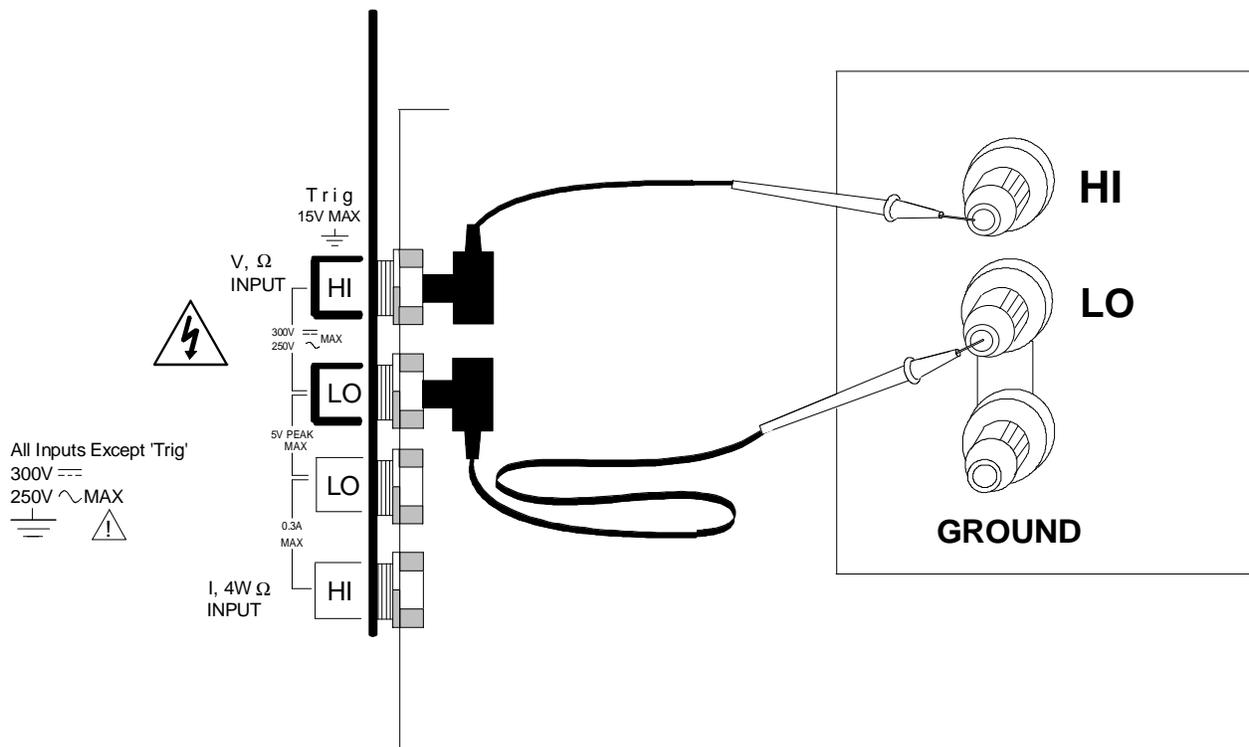

Figure 6-1. Make ACV measurements with the source ground attached to the SM-2020 **V,W LO** to minimize "Common Mode" measurement problems.
1) ACV measurements, if possible, should have the NEUTRAL or GROUND attached to the SM-2020 **V,W LO** terminal. See Figure 6-1, below. This prevents any "Common Mode" problems from occurring ("Common Mode" refers to floating the SM-2020 **V,W LO** above Earth Ground.) Common Mode problems can result in noisy readings, or even cause the PC to hang-up under high V x Hz input conditions. In many systems, grounding the source to be measured at Earth Ground (being certain to avoid any ground loops) can give better results.